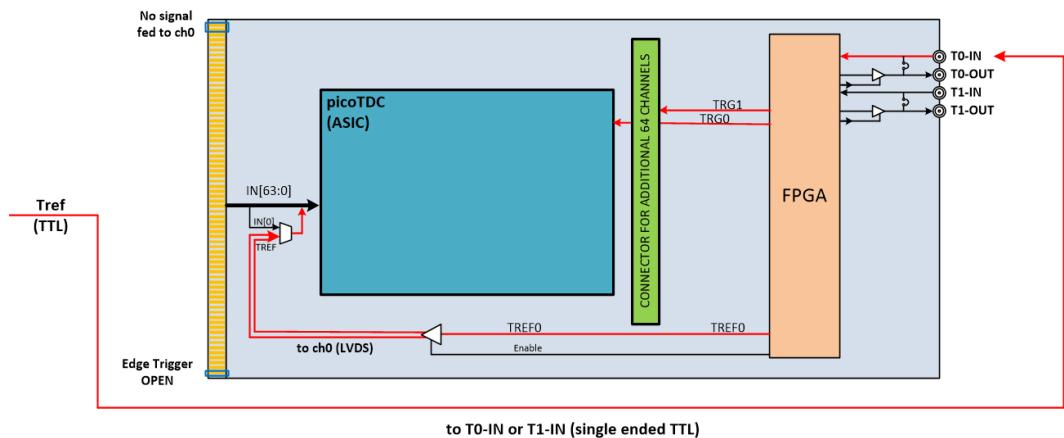

Fig. 9.3: Simplified block diagram of the Tref and trigger connections in case the Tref signal is duplicated inside the board.
2. fed to T0-IN or T1-IN only. The reference signal is then duplicated on board, and sent to the FPGA and to the reference channel (ch0) via an internal driver. See **Fig. 9.3**.